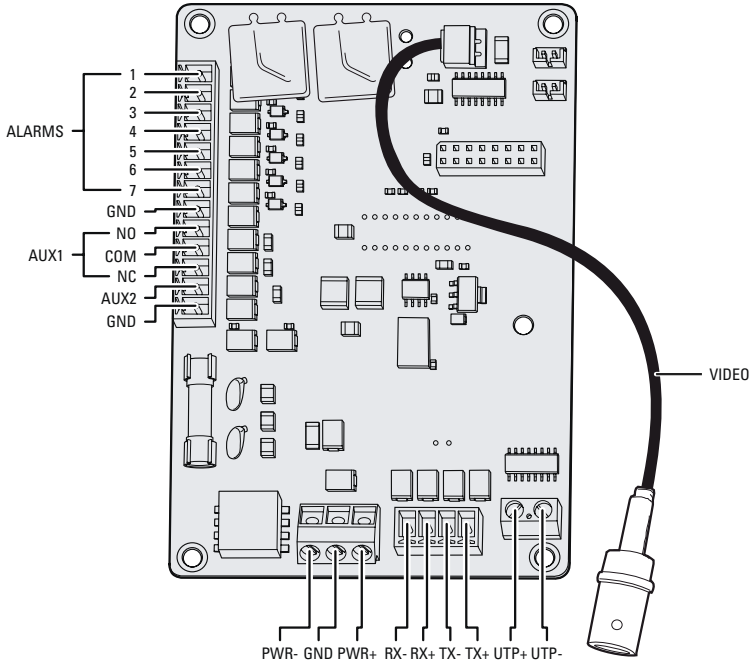

Figure 9. Connect the Wiring to the Circuit Board
3. Connect the auxiliary, alarm, and other wiring to the back box circuit board (refer to Figure 9).